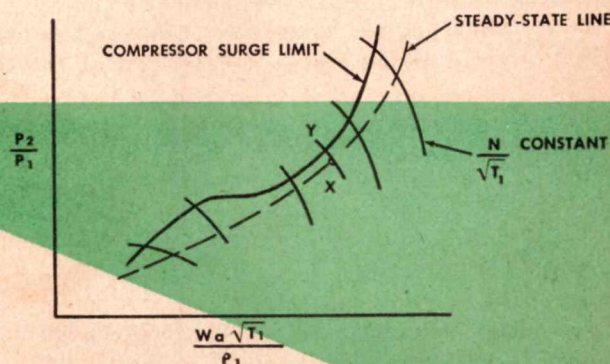

Figure 2 — Representation of compressor characteristics.
Figure 2 shows how the characteristics of a compressor are usually presented. Values of compressor pressure ratio are plotted as ordinates against corrected air flow as abscissae for constant values of corrected engine rpm, $N/\sqrt{T_1}$. Shown on the curve is a dotted line marked "steady state operating line," and a solid line marked "compressor surge limit." Each point on
By virtue of equation (6), there is also a value of corrected fuel flow corresponding to each point on the steady state line. Suppose the engine is running in equilibrium corresponding to some point on the steady state line of Figure 2, such as that point indicated by X . If it is now desired to accelerate the engine, the fuel flow to the engine is increased. The additional fuel burns in the combustion chamber, giving an increased temperature of the gases entering the turbine; this increased temperature results in a volumetric expansion and an increase of combustion chamber pressure.
But the fuel flow increases must not be permitted to allow the compressor ratio to rise above the value corresponding to the compressor surge limit, given by the upper curve of Figure 2, or severe damage to the engine may result.
A study of the compressor map, Figure 2, discloses that several groups of engine variables may be used to control or limit the maximum engine fuel flow. A few of these are listed below: